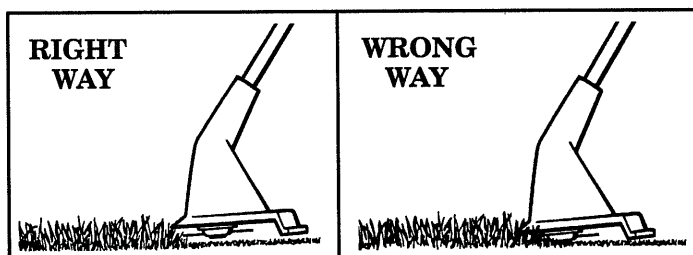

Figure 2
- **The tip of the line does the cutting.** Allow line to cut at its own pace. You will achieve better results by not crowding the line into the cutting area. The right and wrong ways are shown in Figure 2.
- **Avoid letting the line holder continuously contact the ground during normal cutting.** Constant contact will cause line holder damage and premature line wear. The right and wrong ways are shown in Figure 2.
2. Hold the unit with the shield and trimmer line parallel to and above the ground. Figure 2.